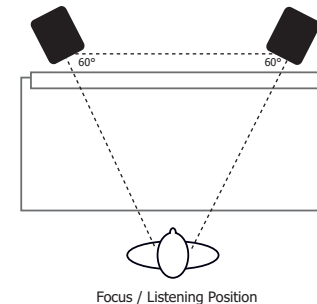

Figure 3.1
• *Mid-Field Configuration* – This configuration is similar to the close-field configuration. It is normally used with larger monitors or when the monitors are too large or heavy for the meter bridge. This set up has the potential for a larger sweet spot and better spatial imaging. Make sure that the height of the woofer is above the height of the console. (Figure 3.1)